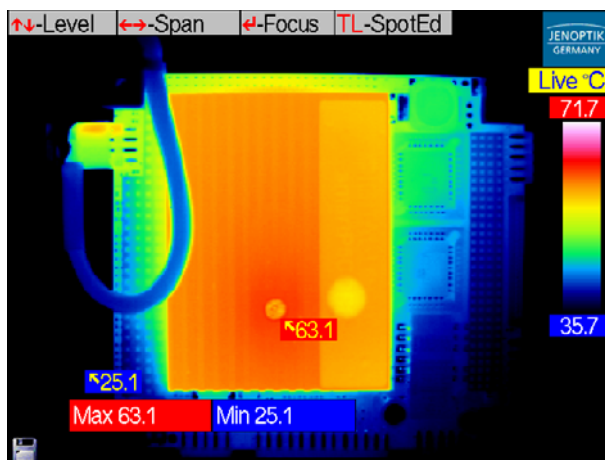

Fig. 125 Displayed visual alarm when exceeding and falling short (U/D) of the thresholds in the entire thermal image
- **"V"** **Visual display** – displays the respective status (see Fig. 124 and Fig. 125)